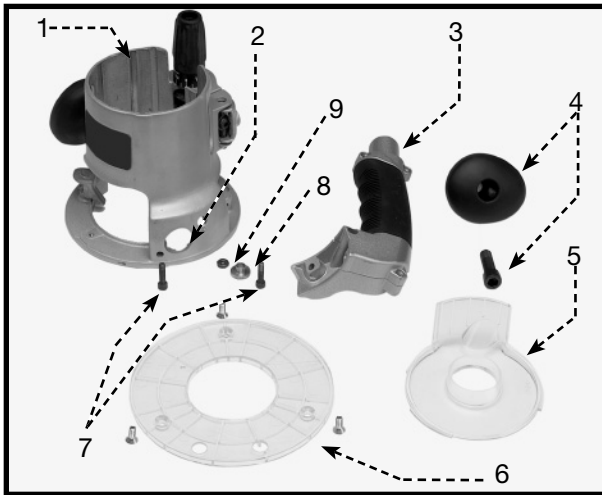

Fig. 1
7. Turn the router base upside down and place the dust deflector (5) Fig. 1 into the bottom of the router base by aligning the three plastic tabs on the deflector with the three recesses in the base. Align the extended part of the deflector with the GripVac™ handle. The deflector will be flush with bottom of router base.